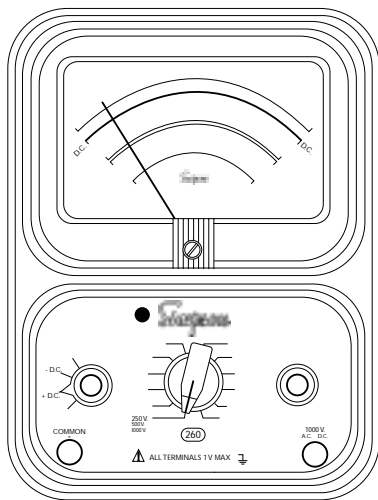

Figure 4-4 Jacks and Switch Positions for Measuring DC Voltages, 0-1000V Range
- Set the function switch at +DC (Figure 4-4).